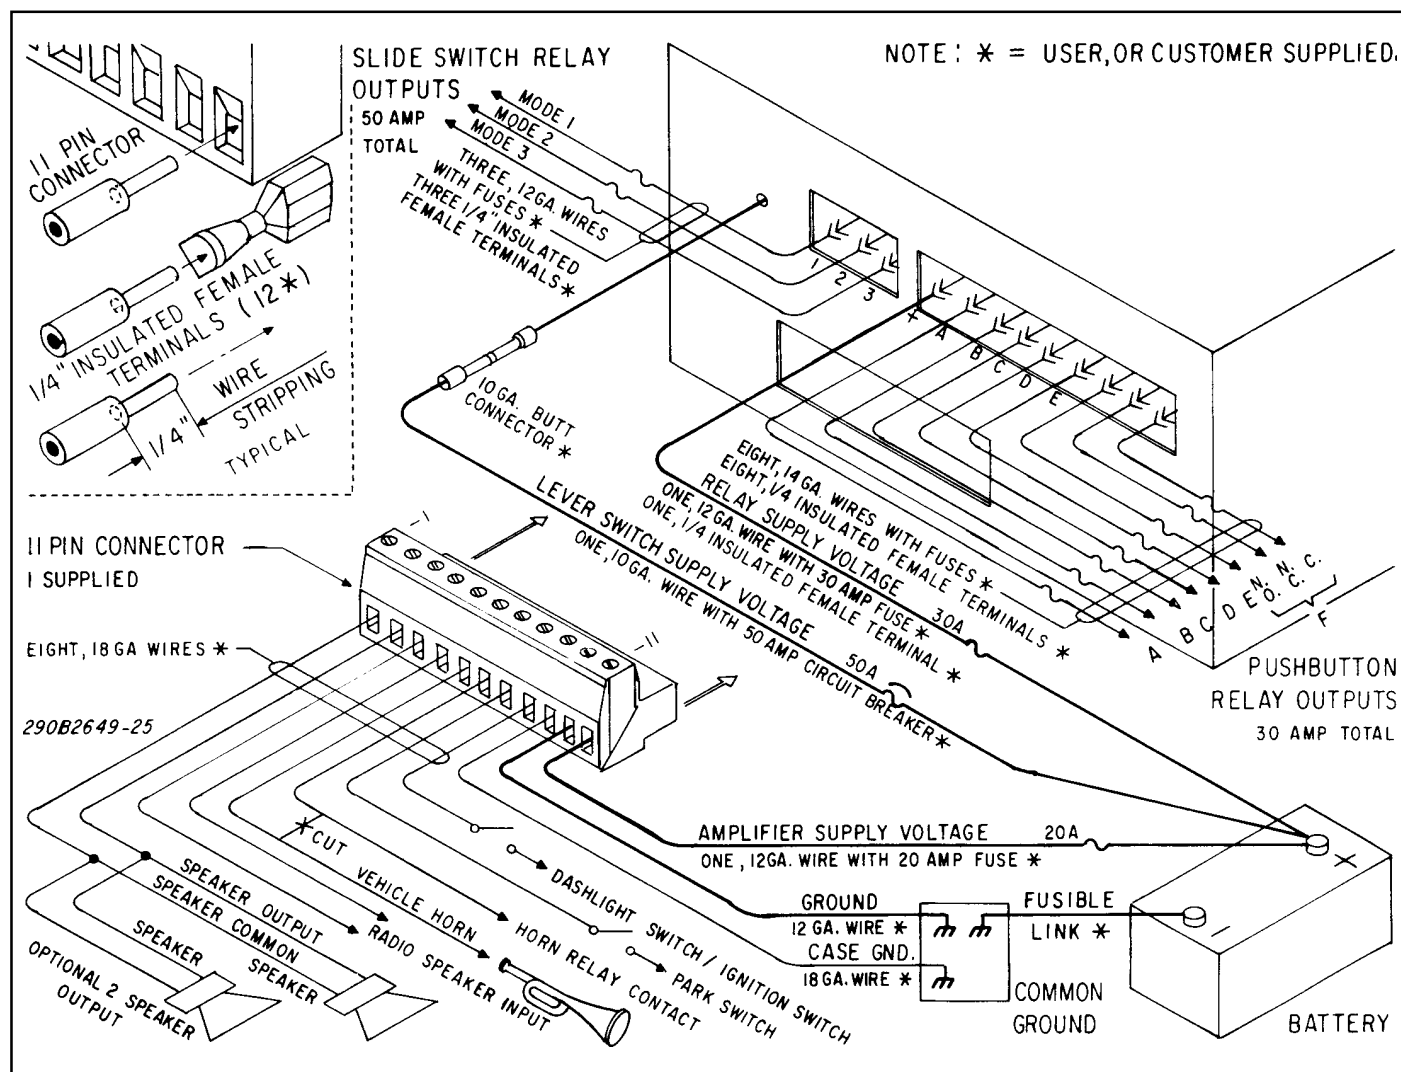

Figure 3-2. PA400SS Wiring.
The unit is designed to operate with one 11-ohm impedance speaker (100W) or two 11-ohm impedance speakers (100W) connected in parallel and in phase. On FEDERAL speakers, this can be accomplished by connecting the two speaker leads marked "1" to the SPEAKER COMMON connector position and the two speaker leads marked "2" to the SPEAKER OUTPUT connector position. See figures 3-2 and 3-3.
Using 18 gauge wire, connect the speaker leads to positions 1 and 2 of the eleven-position connector as shown in figures 3-2 and 3-3.
See figures 3-2 and 3-3. To allow incoming radio messages to be rebroadcast over the outside speakers, connect user-supplied 18 gauge wires to positions 3 and 4 of the eleven-position connector. Connect the other end of the 18 gauge wires across the two-way radio's speaker.
- See figures 3-2 and 3-3. Connect a user-supplied 18 gauge wire to position 5 of the eleven-position connector. Connect the other end of the wire to the horn side of the cut wire. Insulate the connection with a wire nut.
- See figures 3-2 and 3-3. Connect a user-supplied 18 gauge wire to position 6 of the eleven-position connector. Connect the other end of the wire to the horn relay side of the cut wire. Insulate the connection with a wire nut.
See figures 3-2 and 3-3. To use this feature, connect a user-supplied 18 gauge wire to position 7 of the eleven-position connector. Connect the other end of the wire to a vehicle circuit that is GROUNDED when the vehicle is shifted into PARK.
Using figures 3-2 and 3-3 as a guide, proceed as follows:
(see figures 3-2 and 3-4).